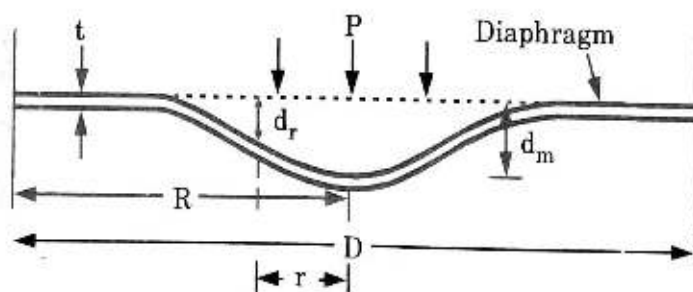

Fig. 5.19.3. Flat diaphragm.
5. The displacement of the diaphragm may be measured to determine the value of applied pressure, P . A flat diaphragm is shown in Fig. 5.19.3.